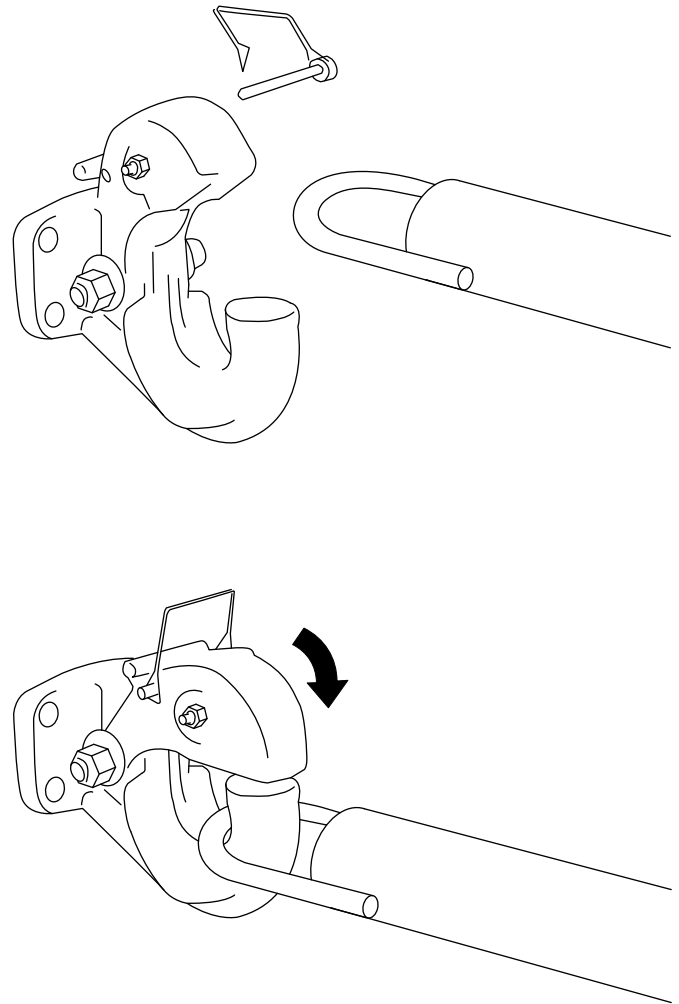

Figure 17
1. Remove the pin from the pintle hitch and open it (Figure 17).
2. Position the ring on the tow pole onto the hook of the pintle hitch (Figure 17).
3. Close the top of the pintle hitch and secure it with the pin (Figure 17).